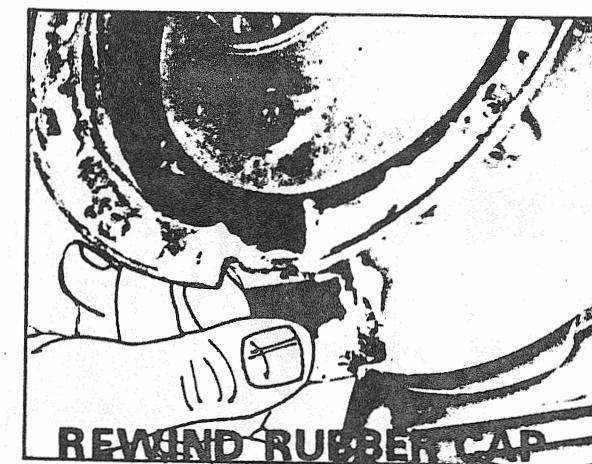

FIGURE 10
- Remove rewind rubber cap (fig. 10).